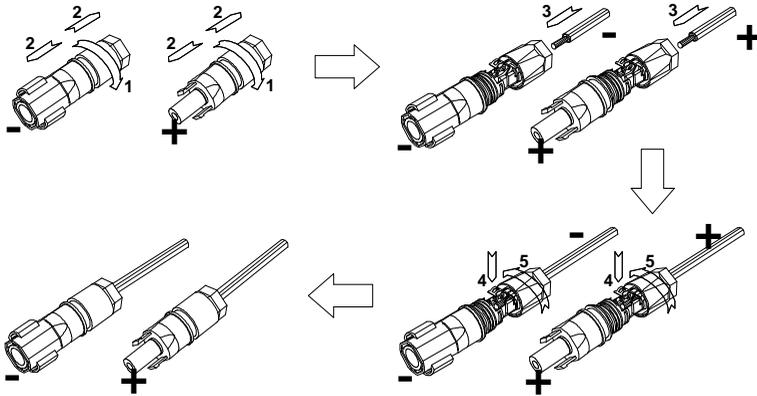

Figure 3.8 Connection between DC connector and solar modules
- (1) Lighting, short-circuit and other protection measures which meet the local electrical safety laws and regulations are needed before the AC connection;
- (2) Connect the output cables of solar modules to the DC connector as figure 3.8 shows. Loosen the nut of connector and remove the isolation layer of the DC cable for about 15mm. Insert it into the connector and press until hear the lock sound. Finally fasten the nut. The wiring of negative pole is the same as that of the positive pole. Ensure the poles of solar modules are well connected with the connectors;
- (3) Connect the DC connector with the inverter and ensure tightly-fastened;
- (4) Insert the screw-driver into the hole of the connector to remove the connector form the inverter.
- (5) Unclench the pressed cover with screw-driver to remove the cables from the connector.